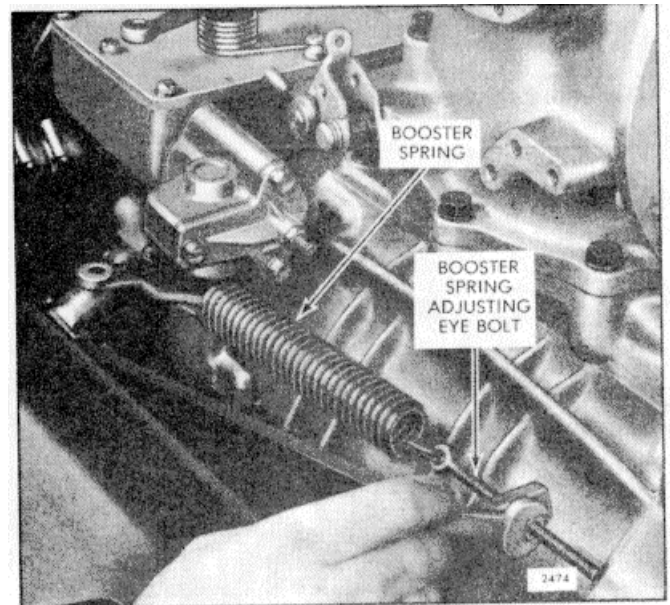

Fig. 7. - Adjusting Booster Spring
2. Refer to Fig. 7 and loosen the booster spring retaining nut on the speed control lever. Loosen the locknuts on the eye bolt at the opposite end of the booster spring.